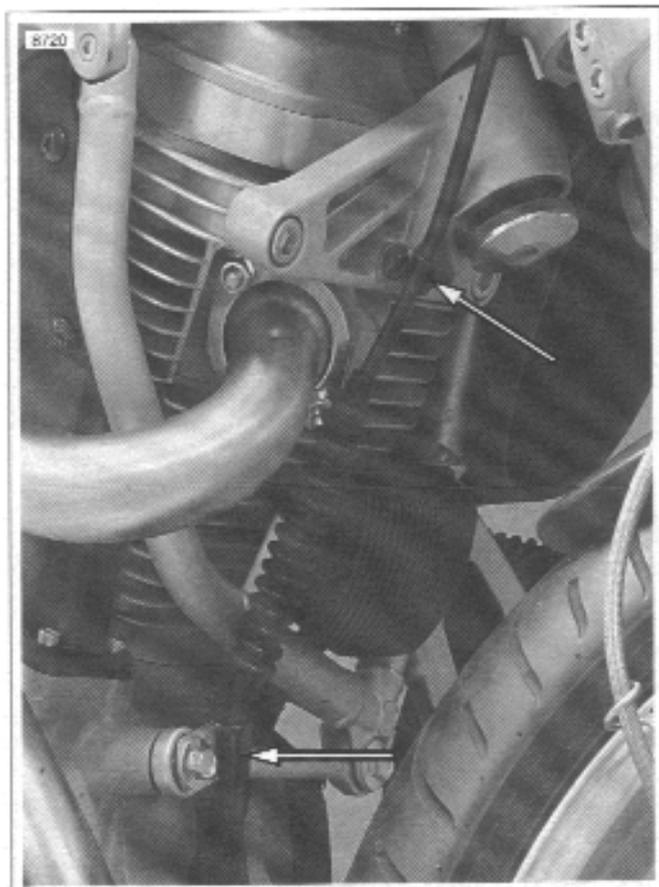

Figure 3-20. Clutch Cable Retaining Clamps
21. See Figure 3-20. Disconnect clutch cable from handlebars.